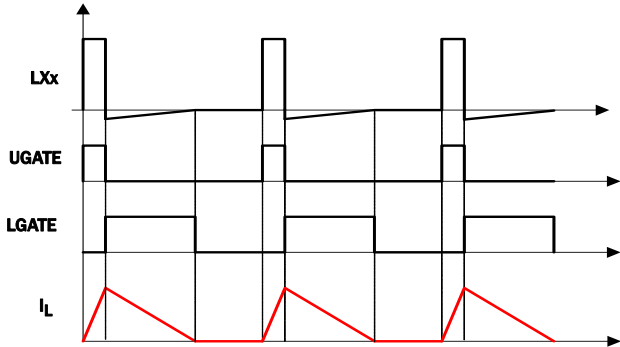

FIGURE 44. DIODE EMULATION
Diode Emulation (DE) allows for higher converter efficiency under light-load situations. In DE mode, the low-side MOSFET conducts when the current is flowing from source-to-drain and does not allow reverse current, emulating a diode. As shown in Figure 44, when the LGATE signal is HIGH, the low-side MOSFET carries current, creating negative voltage on the phase node due to the voltage drop across the ON-resistance. When the DE pin is pulled HIGH, the ISL70003SEH will be in Diode Emulation mode and detect the zero current crossing of the inductor current, and turn off the lower MOSFET to prevent the inductor current from reversing direction and creating unnecessary power loss. This ensures that Discontinuous Conduction Mode (DCM) is achieved. Since diode emulation prevents the low-side MOSFET from sinking current, no negative spike at the output is generated during prebiased startup when DE mode is active.